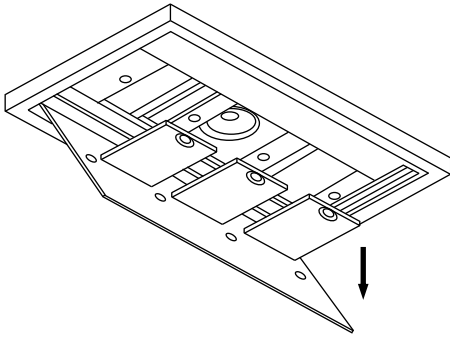

Fig 8
6. Remove the grease and charcoal filters from inside the hood (Fig 8).